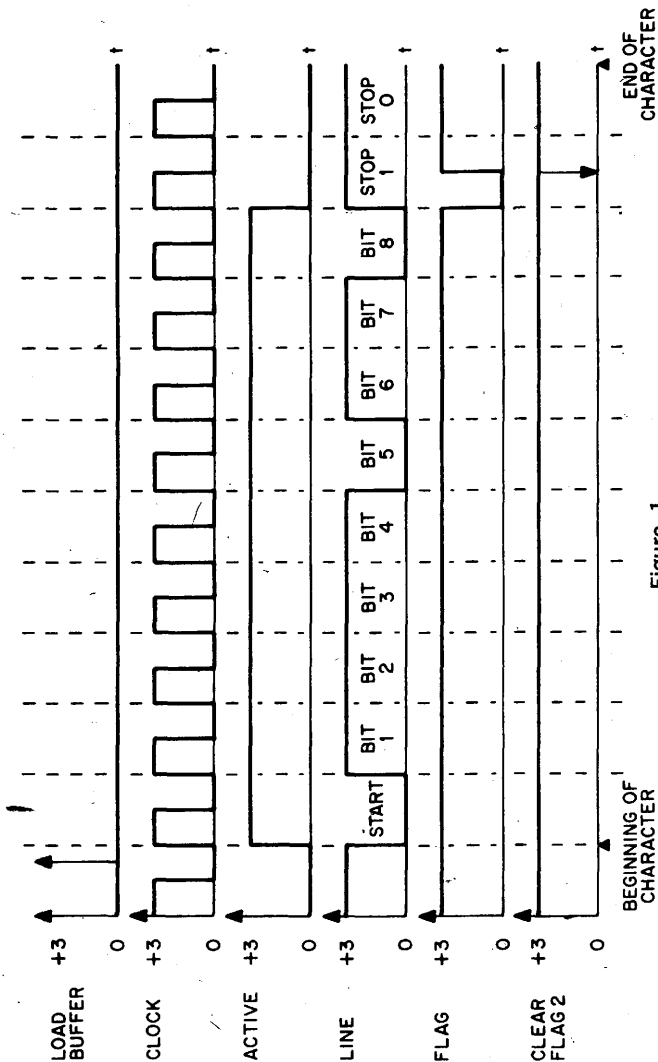

Figure 1.
The M706 Teletype Receiver is a serial-to-parallel teletype code converter self contained on a double height module. This module includes all of the serial-to-parallel conversion, buffering, gating, and timing (excluding only an external clock) necessary to transfer information in an asynchronous manner between a serial data line or teletype device and a parallel binary device. Either a 5-bit serial character consisting of 7.0, 7.5, or 8.0 units or an 8-bit serial character of 10.0, 10.5, or 11.0 units can be assembled into parallel form by the M706 through the use of different pin connections on the module. When conversion is complete, the start and stop bits accompanying the serial character are removed. The serial character is expected to be received with the start bit first, followed by bits 1 through 8 in that order, and completed by the stop bits. Coincident with reception of the center of bit eight, the Flag output goes low indicating that a new character is ready for transmission into the parallel device. The parallel data is available at the Bit 1 through Bit 8 outputs until the beginning of the start bit of a new serial character as received on the serial input. See the timing diagram of Figure 1 for additional information.
**Read Buffer:** A high level or positive pulse at this input while the code select inputs are all high will transfer the state of the shift register to outputs Bit 1 through Bit 8. Final parallel character data can be read by this input as soon as the Flag output goes to ground. Output data will be available a maximum of 100 nsec after the rising edge of this input. See the timing diagram of Figure 1 for additional information.
The M707 Teletype Transmitter is a parallel-to-serial teletype code converter self contained on a double height module. This module includes all of the parallel-to-serial conversion, buffering, gating, and timing (excluding only an external clock) necessary to transfer information in an asynchronous manner between a parallel binary device and a serial data line or teletype device. Either a 5-bit or an 8-bit parallel character can be assembled into a 7.0, 7.5, or 8.0 unit serial character or a 10.0, 10.5, or 11.0 unit serial character by the M707 through the use of different pin connections on the module. When conversion is complete, the necessary start bit and selected stop bits (1.0, 1.5, or 2.0 units) have been added to the original parallel character and transmitted over the serial line. The serial character is transmitted with the start bit first, followed by bits 1 through 8 in that order, and completed by the stop bits. Coincident with the stop bit being put on the serial line, the Flag output goes low indicating that the previous character has been transmitted and a new parallel character can be loaded into the M707. Transmission of this new character will not occur until the stop bits from the previous character are completed. See the timing diagram of Figure 1 for additional information.